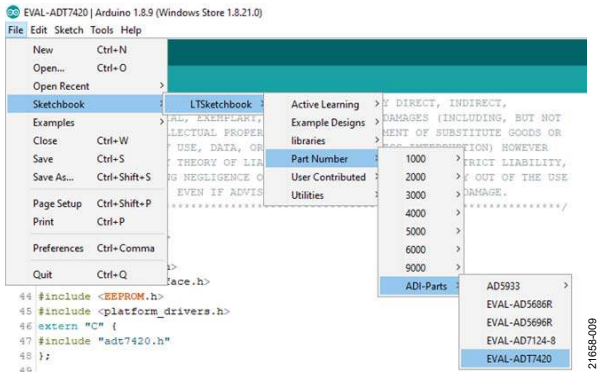

Figure 10. Arduino IDE Load Sketch Example
1. Close and open a new Arduino IDE. In the Arduino IDE, navigate to **File > Sketchbook > LTSketchbook > Part Number > ADI-Parts > EVAL-ADT7420** (see Figure 10). A new window opens with the EVAL-ADT7420ARDZ example software. This software allows the user to use the EVAL-ADT7420ARDZ shield with the Arduino board.